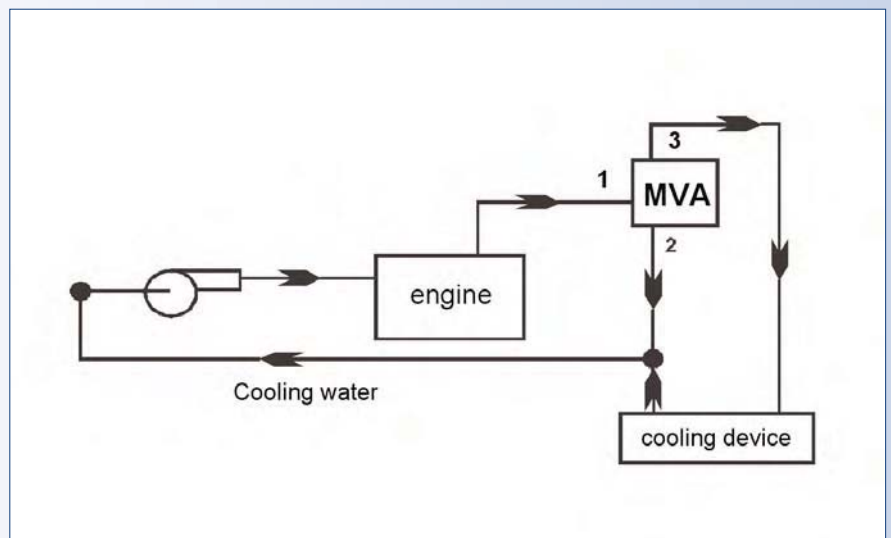

Fig. 3 COOLING WATER – DIRECT COOLING
In Fig. 3 the temperature of the cooling water is maintained constant at the engine's outlet. If the point T is above the water line, a non-return valve (W) must be installed, in order to avoid that the cooling system loses all its fluid if the engine is stopped.